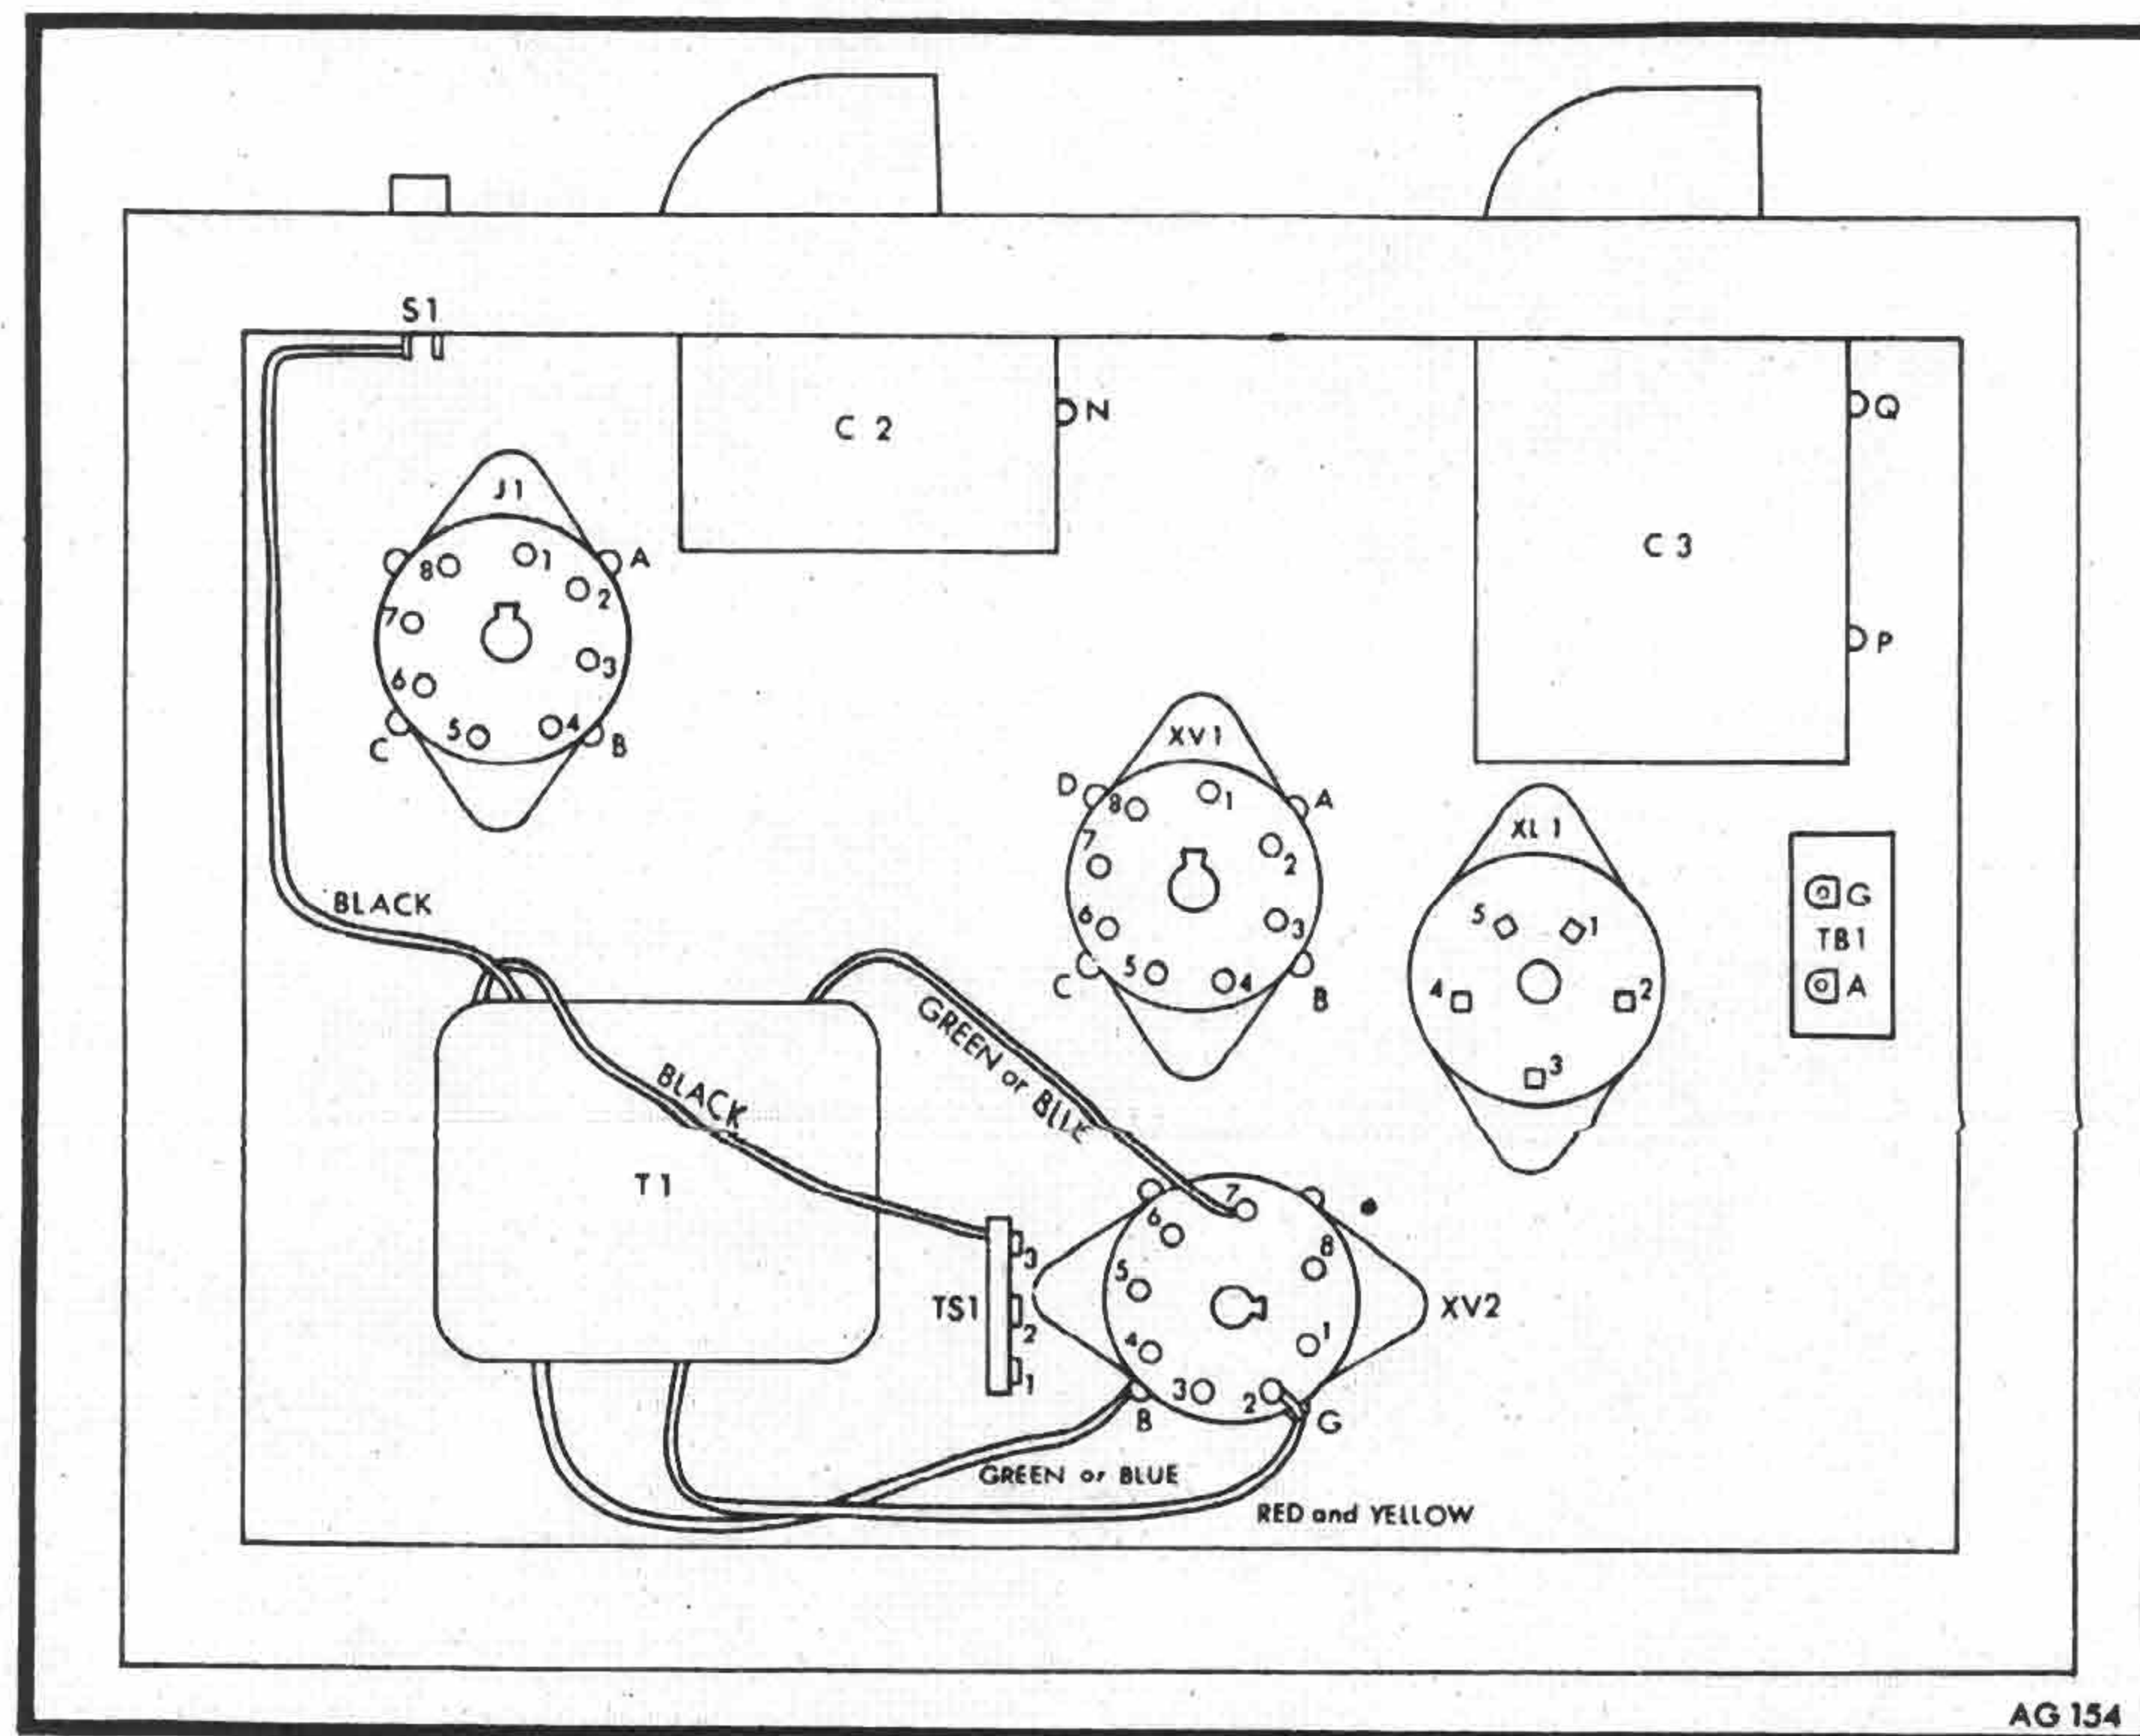

FIGURE 1: OUTLINE DRAWING - BOTTOM VIEW
2. Mount J1, an 8 pin octal socket, in the position indicated in Figure 1. The key (slot) in the socket should be positioned exactly as shown. Use a 6-32 x 1/4 screw, a #6 lockwasher and a 6-32 nut for each mounting hole. Insert the screw into the top of the chassis and the lockwasher between the socket and the nut.
3. Mount X1, an 8 pin octal socket, in the position shown in Figure 1. Use hardware and mounting procedure as in Step 2. Note the position of the key of the socket.
4. Mount X2, an 8 pin octal socket, in the position shown in Figure 1. The key (slot) should be positioned exactly as shown. Use hardware and mounting procedure as in Step 2 except on the screw nearest the power transformer; after the lockwasher is in place, mount the three lug terminal strip, TS1, then a lockwasher and a nut. Be sure the terminal strip is in the position shown in Figure 1 after tightening the nut.
5. Mount X3, a 5 prong socket, in the position shown in Figure 1. Use hardware and mounting procedure as in Step 2. Socket X3 does not have a key but can be mounted correctly by observing the position of the five terminals in Figure 1.
6. Mount TB1, a 2-screw terminal strip, in the position shown in Figure 1. TB1 is mounted on top of the chassis. Use hardware as in Step 2. Place the lockwasher between the chassis and the nut. The solder lugs of the terminal strip face the center of the chassis.
7. Mount T1, the power transformer, in the position shown in Figure 1. Note that the two black transformer leads are near J1, towards the front panel. Fasten T1 in place with 4 #8 lockwashers and 4 #8-32 nuts.